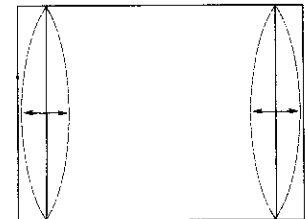

fig. 4
- Adjust the E-W PARABOLA to obtain condition as in fig. 4.